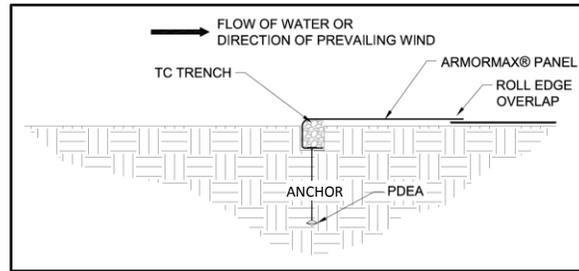

Figure 19: Terminal Channel (TC) Trench Complete
- Backfill and compact the TC trench (Figure 19).
- Fold the ARMORMAX panel over the top of the compacted TC trench ensuring a minimum 3 inch (75 mm) overlap and place each panel end into the respective COS trenches (Figure 19).